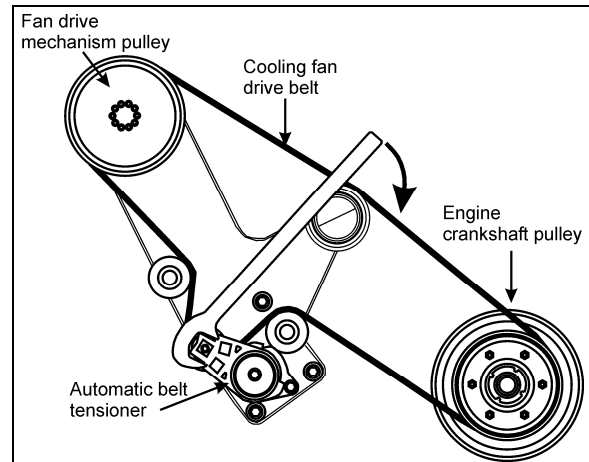

FIGURE 29: DRIVE BELT ROUTING (VOLVO D13 ENGINE)
1. Wrap the new drive belt around the fan drive mechanism pulley, the idlers and the automatic tensioner idler as shown on figure 29.
2. Using the special tool included with your vehicle (see inside the Warning Reflectors box located in the first curb-side baggage bay), rotate the automatic tensioner in clockwise direction to relieve tension on the belt and hold the tensioner in that position (Fig. 29).